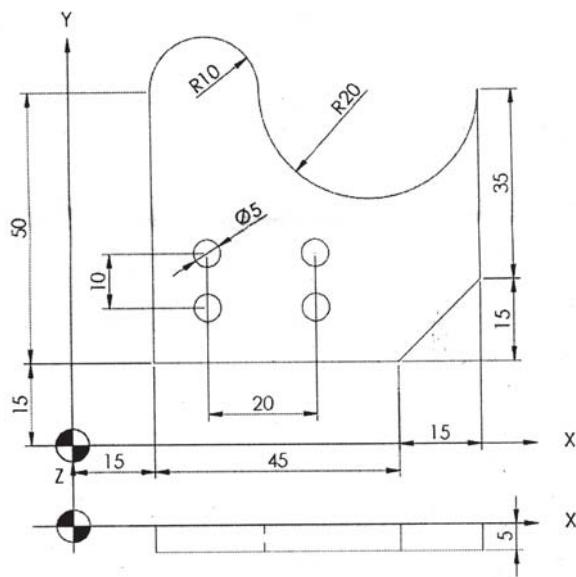

Fig. 3
- Q6) a)** Write CNC program using G and M codes to contour, face and drill the component shown in fig. 3. Use canned cycles wherever applicable. Thickness of blank is 7 mm. Assume suitable data for speed and feed. [10]